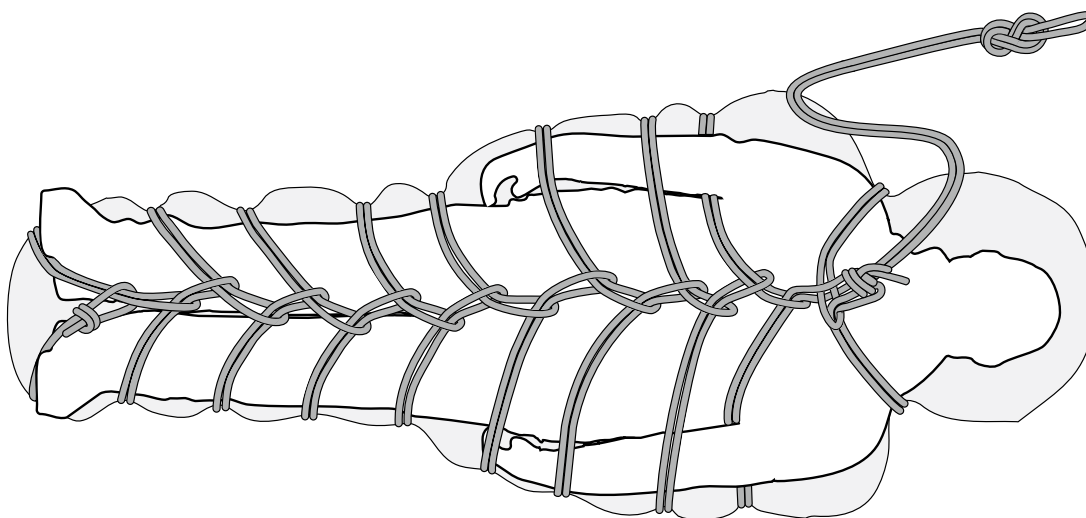

Figure 8-11. Securing the Last Bight.
8. Secure the last bight with a round turn and two half hitches, leaving a big enough bight to tie a figure-eight loop at the end, as shown in Figure 8-11. This loop becomes the hook in point for vertical lowering.